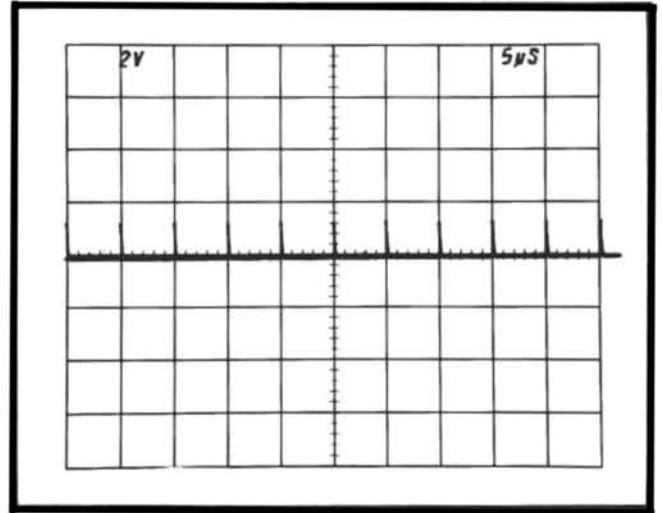

Fig. 5-11. CRT display showing correct 5  $\mu$ s timing.
c. CHECK—CRT display for one marker each division between the second and tenth vertical lines. Check that sweep timing is within 0.16 division (2%) over the center eight divisions. See Fig. 5-11.